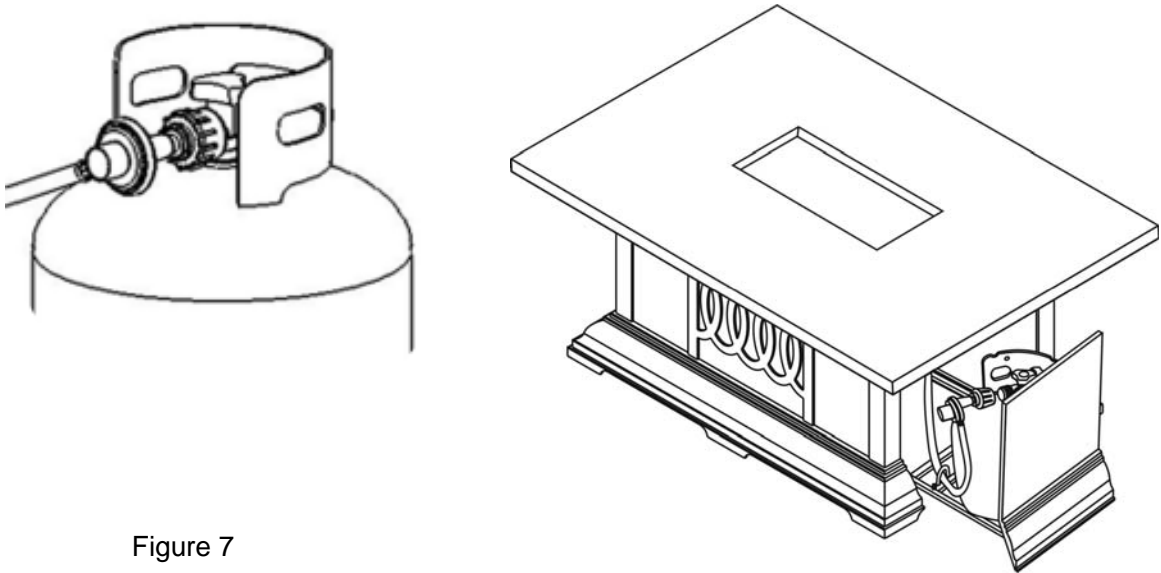

Figure 7
5. Slide the tank drawer out and place the LP tank in the drawer. Connect the regulator as shown in Figure 7. Screw the black handle clock-wise to tighten. Turn the handle counter clock-wise to remove. The hose must point down. Check that the valve is turned all the way clockwise to the "OFF" position. Open the tank valve. Apply a solution of soapy water to the tank-regulator connection and to the valve-hose connection to check for leaks. If soap bubbles continue to form, the connection has a leak. If a leak is found, close the tank valve and tighten all connections.